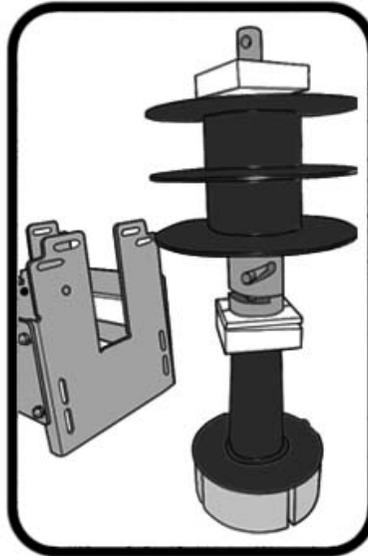

Fig. 6
**Step 5:** Set the rope reel / end-casting assembly on its head. This will make disassembling the part much easier. **(Fig. 6)**